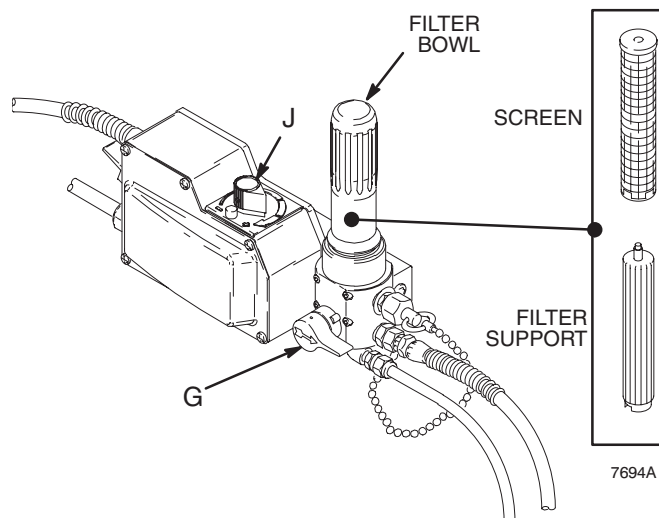

Fig. 8
2. Turn pressure adjusting knob (J) fully counter-clockwise to zero pressure.
3. Remove spray tip from gun. See Fig. 8. Remove filter bowl, filter support and screen. Clean screen separately and install bowl without screen or support to flush it.
4. Put suction tube into a grounded metal pail with 1/2 gallon of compatible solvent. Close pressure drain valve (G).